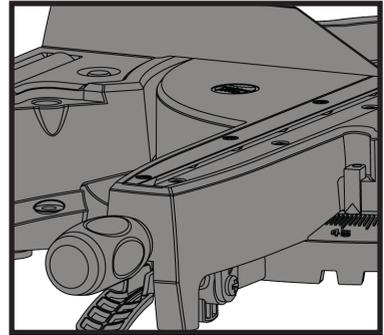

Fig 23
- a) Set the cutting head to 45° and check the angle between the blade and the machine table with a 45° set square (not provided). (Fig 23)